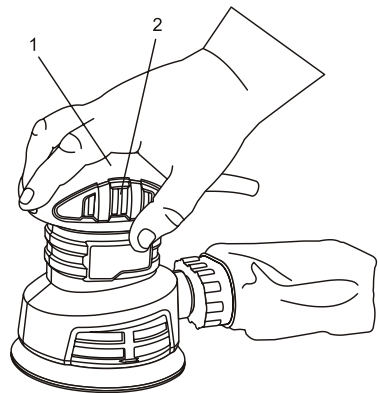

Fig. 7
NOTE: Hold the sander with one hand on the hand grip (1) on top of the sander (Fig. 7). Be careful NOT to cover the cooling vents (2) with your hand. Covering the cooling vents could cause the motor to be damaged by overheating.